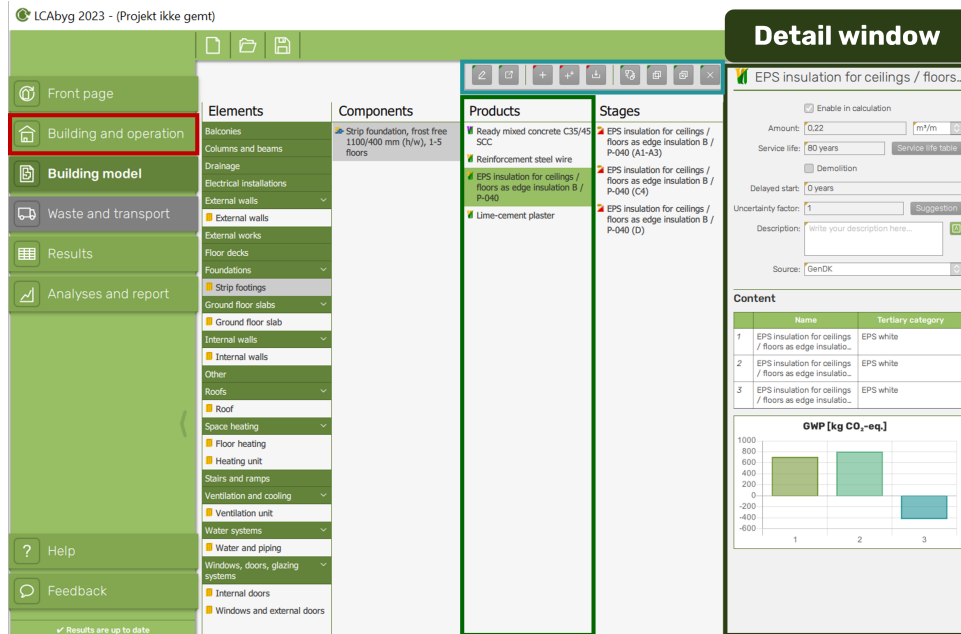

Figure 2.5: Illustrates the 'Product' level
There can be found a large number of **products** in the programs library, which covers a wide range of materials and products. The product library is updated to follow annex 2, table 7 in the notice for the LCA-requirement from 1 January 2023 It is also possible to create a name your own products. A product contains information about environmental impacts and resource use throughout the products life cycle, that can be seen in Figure 2.5. A product from the LCAbyg library will always contain the stages: Manufacturing (A1-3), as well as Waste processing (C3) and/or Disposal (C4). Potential for reuse, recovery and recycling (D), will only be added when the information is accessible.
It is possible to add to and edit products, either by right clicking or using the buttons marked with red at Figure 2.5. The meaning of the buttons can be seen under the section Meaning of icons and colors.